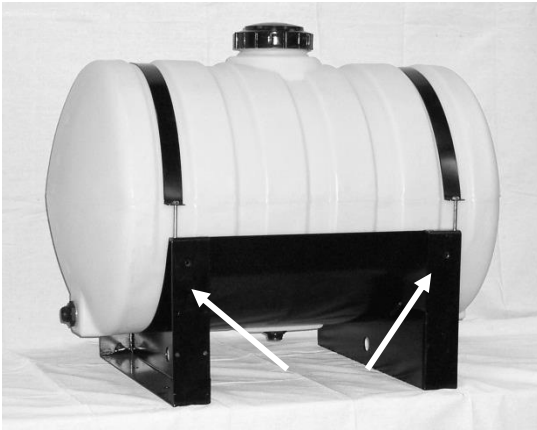

Figure 10
1. Locate mounting weld nuts on saddle as shown in Figure 10.